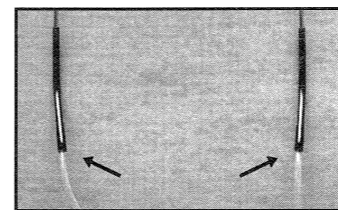

Figure 2
1. Remove the oxygen supply tubing from the packaging and lay it out on a table; it should look like the letter "Y". The long end of the tubing will connect to either the portable oxygen source or to the tubing from the stationary oxygen source. The other end of the tubing will divide into two parts which should be slid onto the temple pieces (tube) or the portion of the frame that fits over the ears. (Fig. 2) The supply tubing should slide onto each temple piece about 1/4 inch. If the ear pad needs to be slid forward on to the